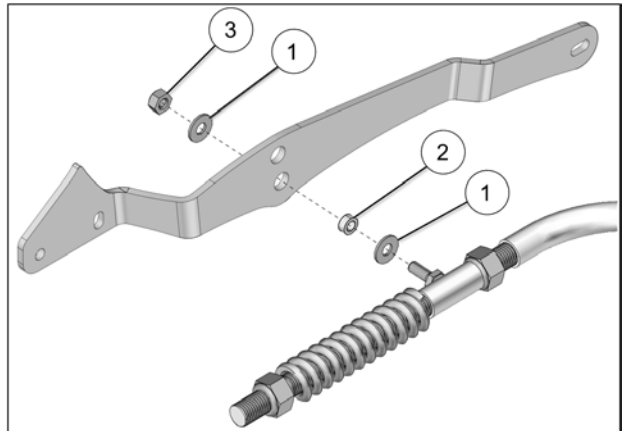

Fig. 8
8. Attach the rear suspension stabilizing rod to the undercarriage bracket using washers (1), bushing (2) and nut (3). Use lower hole. Refer to See Fig. 8